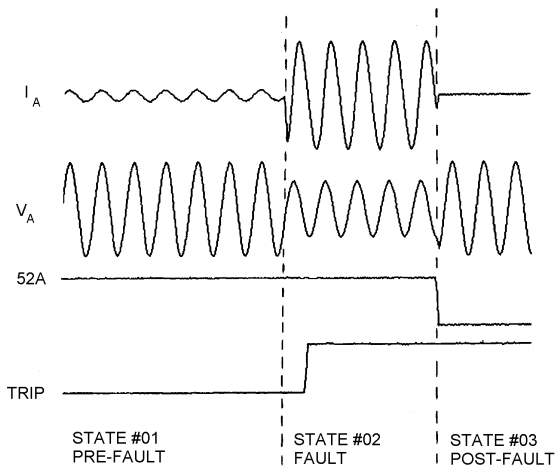

Figure 2 Example of Pre-Fault, Fault, and Post-Fault States
- ▶ **Testing with States.** Define a test as a sequence of up to 255 states (three show in *Figure 2*). Link states together to create a test file. Run the tests from a menu or directly from the operating system prompt. View test results through a Results window, or examine the test results by reading automatically created ASCII files.